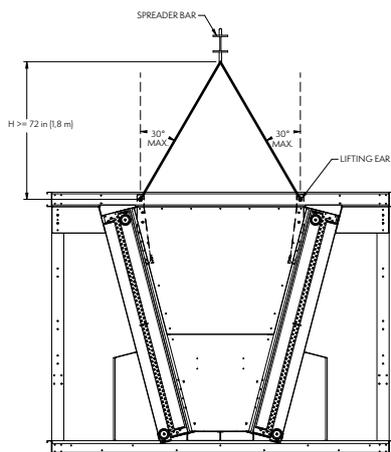
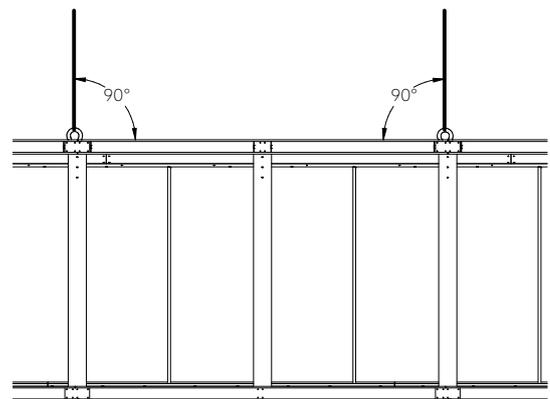

Figure 20.1 – Lower Section End Elevation View
Figure 20.2 – Lower Section Side Elevation View
3. Care must be taken to ensure that the 'H' dimension for the crane lift is greater than or equal to 6' (1.8 m) from the lifting ears as shown in Figure 20.1. When viewed from the side, the lifting angle must **ALWAYS** be 90 degrees (perpendicular) to the top of the unit, as shown in Figure 20.2. The width between the lower section lifting ears on the end elevation view is 5' 5-3/4" (1,670 mm).